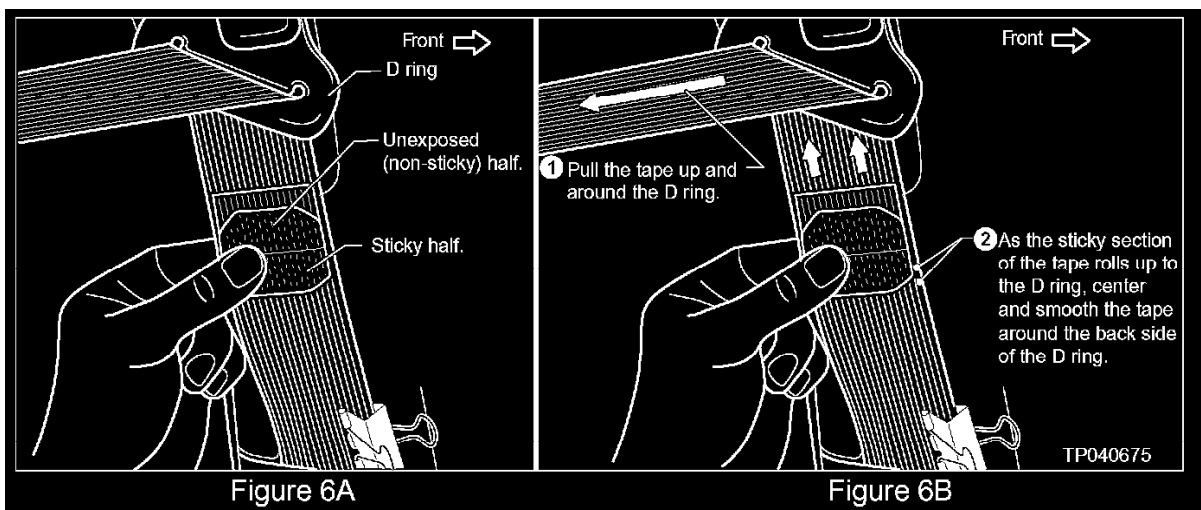

Figure 6A
6. Place the fluorine resin tape (adhesive side toward you) against the seat belt as shown in Figure 6A.